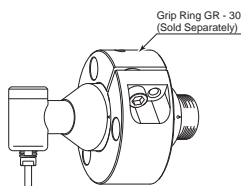

Fig. 6
- * When installing the Spindle, it is recommended to use a * GR - 30 Grip Ring (sold separately (Fig. 6) *). If the GR - 30 Grip Ring cannot be used due to the restriction of dimension and space, install as shown in ② below.